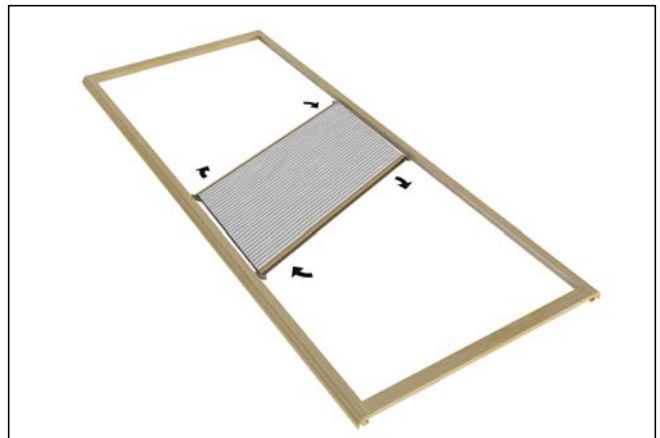

Figure 8
3. Insert one end of pull bar stack into the surround and rotate the other end into place. See figure 8.